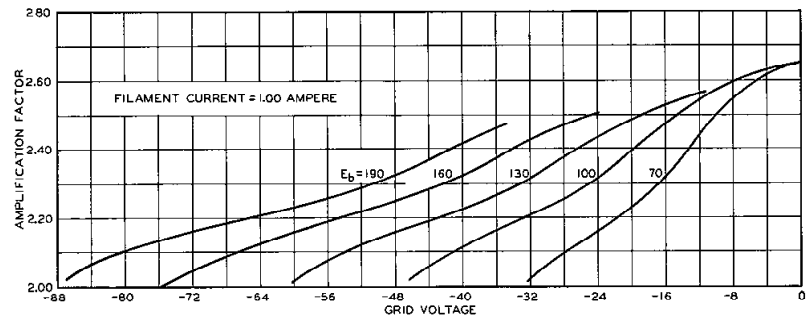

FIG. 4
**Characteristics**—Typical curves showing plate current as a function of grid voltage for several values of plate voltage are shown in Figure 3. The grid and plate voltages are measured from the negative end of the filament. Corresponding amplification factor, plate resistance and transconductance characteristics are given in Figures 4, 5 and 6 respectively. Plate current as a function of plate voltage for several values of grid voltage is shown in Figure 7.